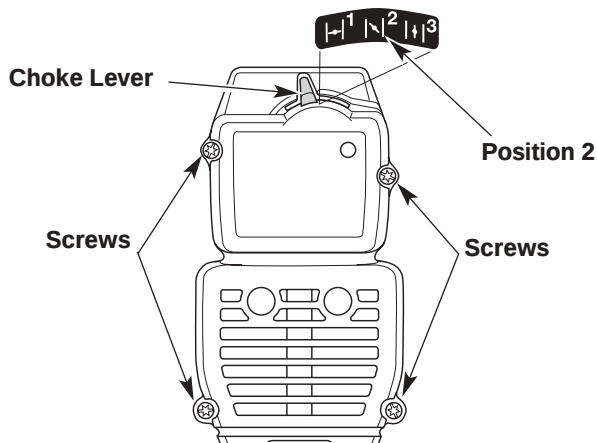

Fig. 13
NOTE: The start control must be in Position 2 (Fig. 13) to remove the air filter/ muffler cover.
2. Remove the four (4) screws securing the air filter/muffler cover (Fig. 13). Use a flat blade or # T20 Torx bit screwdriver.
NOTE: The choke lever must be in Position 2 (Fig. 13) to remove the air filter/ muffler cover.
2. Insert the four (4) screws into the holes in the air filter/ muffler cover (Fig. 13) and tighten. Use a flat blade or # T20 Torx bit screwdriver. Do not over tighten. Do not force.